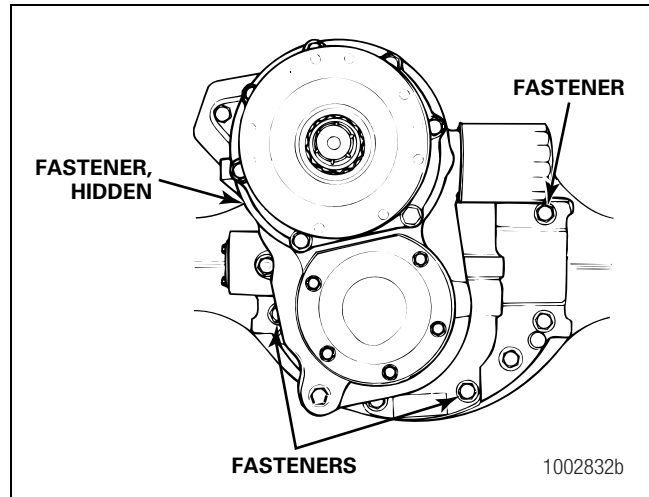

Figure 5.115
10. Carefully push the carrier into position. Alternately tighten the four fasteners two or three turns. Figure 5.115.